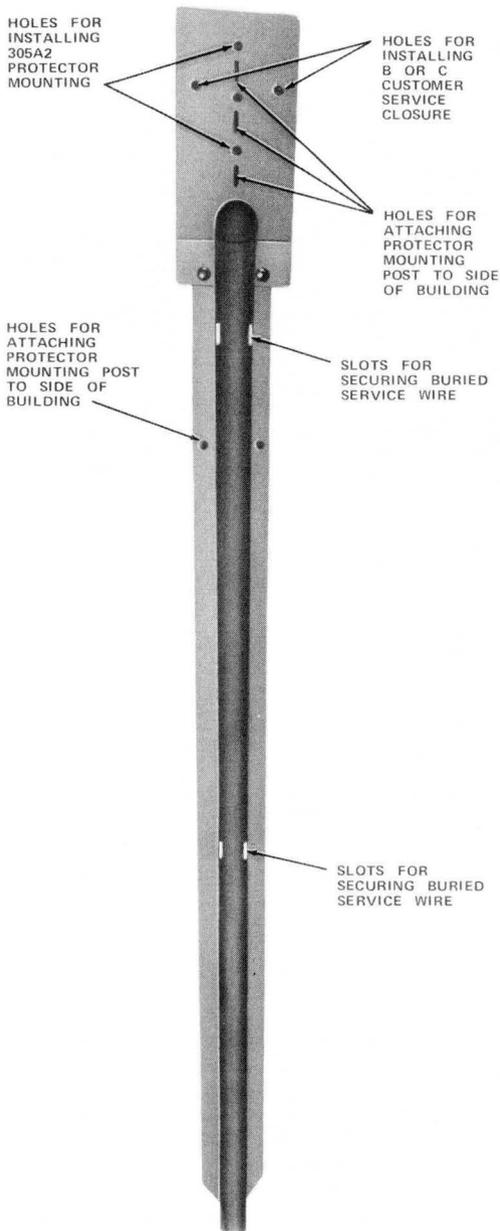

Fig. 30—♦Protector Mounting Post (PMP)♦
3.40 The protector mounting posts, PMP-38 (Fig. 30) and PMP-50, are designed to mount a 93D1 ♦(MD)♦ protector mounting, a 305A2 ♦(MD)♦ protector mounting, a 123- or 128-type protector, or a B customer service closure, where protectors are served by buried service wire. The PMP is available in 38-inch and 50-inch sizes to suit various conditions. It can be installed freestanding, at the edge of a mobile home, or can be installed on the side of a permanent building or a power service entrance conduit. When used freestanding, the